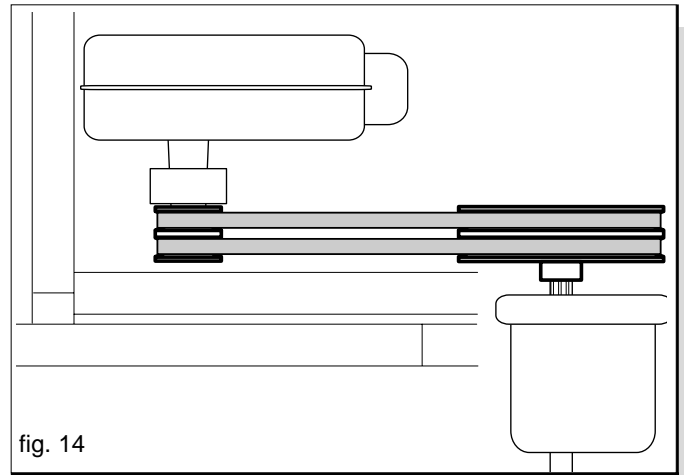

fig. 14
- 1) The belts should be inserted between the pulley fitted on the rear power take-off of the harrow and the one with the centrifugal clutch of the blower (Fig. 14).